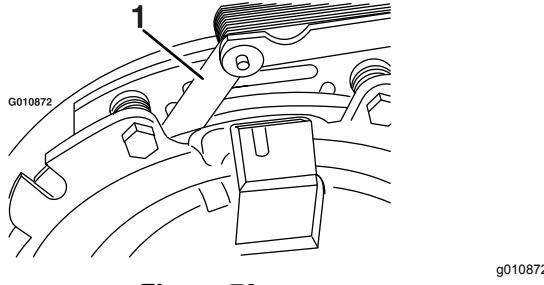
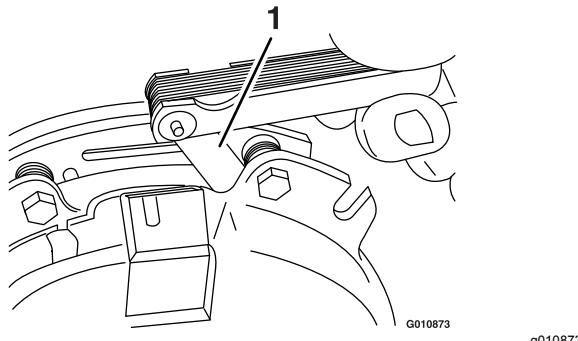

Figure 79
Figure 80
E. Using a 0.010 inch thick-feeler gauge, verify that a gap is present between the rotor and armature face on both sides of the brake pole as shown in Figure 79 and Figure 80.